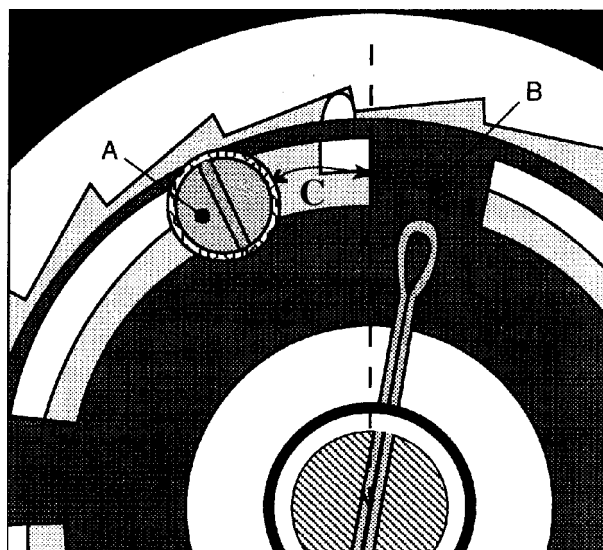

Fig. 2.
B) The distance "C" is adjusted as follows: **Dev/Fix/Wash rack $10,5 \pm 0,5\text{mm}$ (Fig. 2.)**